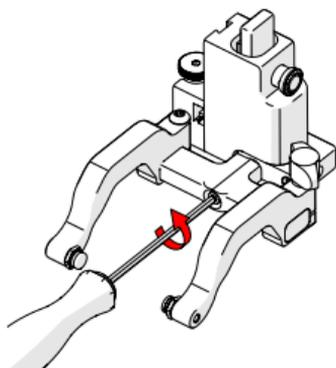

Fig. 121 - Remove yoke
1. Using the supplied 3 mm driver, unscrew the yoke (Fig. 121).